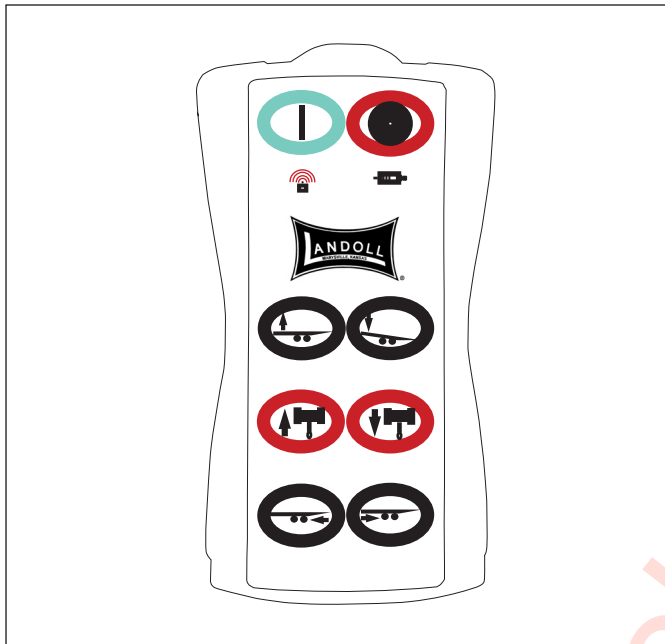

Figure 3-14: Remote Control Receiver
1. A wireless six function radio remote control is available (See Figure 3-14.)